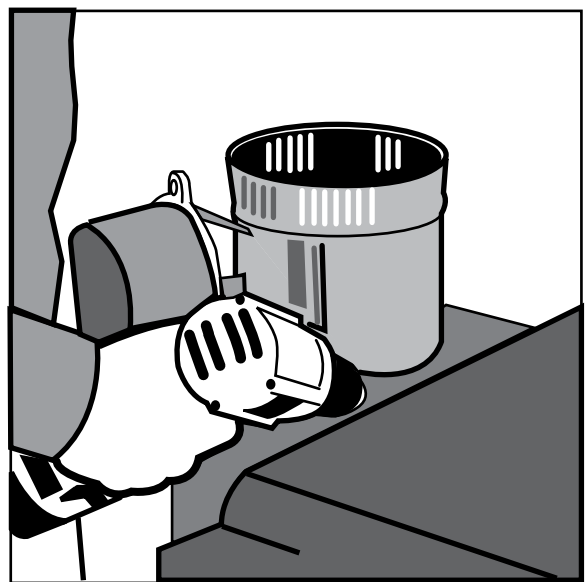

Figure 4-a
2. Attach the vent damper with three sheetmetal screws around the perimeter of the flue collar (Figure 4-a). The vent damper may also be mounted anywhere between the flue outlet and the chimney within reach of the electrical harness.